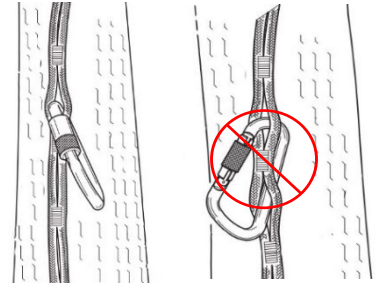

Fig. 20
- ◆ When attaching the carabiner it is critical to capture one side of the double strand rope and not attach the carabiner through the stitched section. The carabiner must only attach through one segmented attachment point on the SuperSaver Rope, never attach through multiple segmented attachment points (Fig. 20).
- ◆ As outlined by OSHA 1926.502 (e)(2) positioning devices shall be secured to an anchorage capable of supporting at least twice the potential impact load of an employee's fall or 3,000 lbf. (13.3 kN), whichever is greater versus fall arrest anchor points which must support a minimum of 5,000 lbf. (22.2 kN) per attached worker and be independent of worker support.